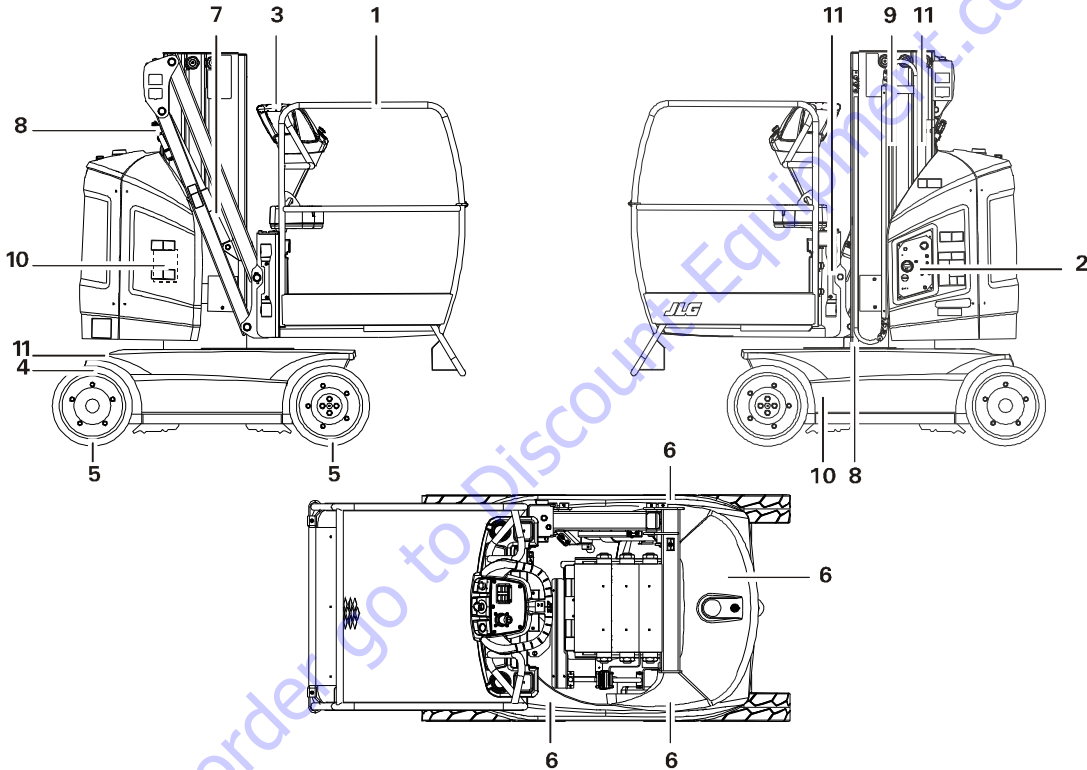
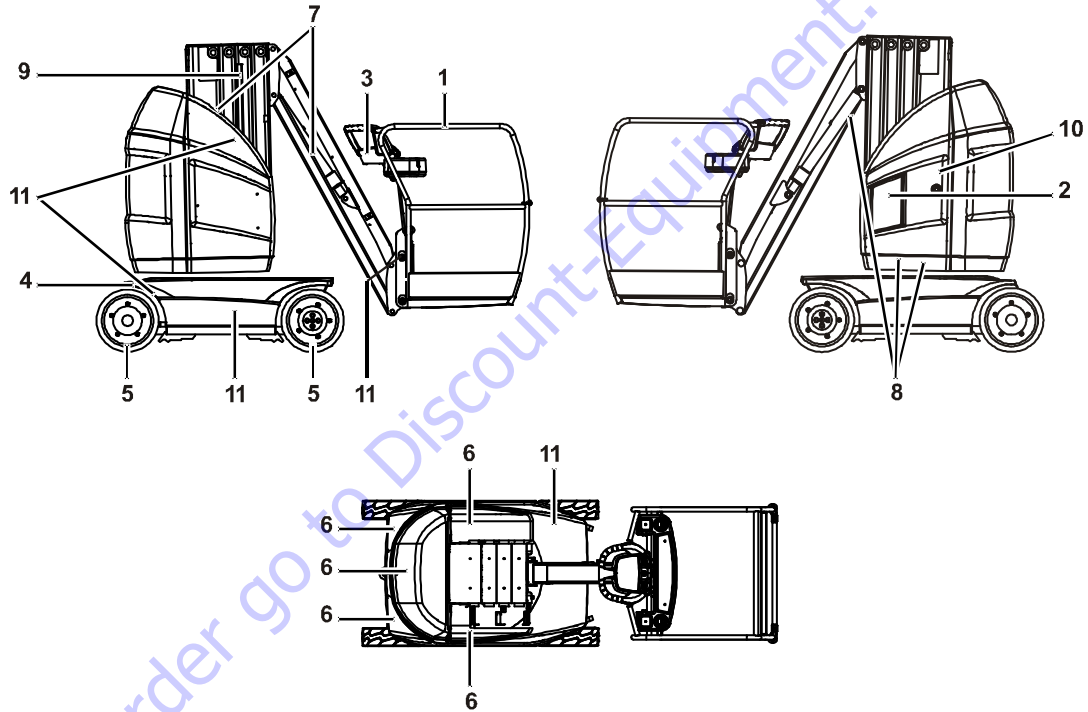

Figure 2-1. Daily Walk-Around Inspection - 8E / 20E
Figure 2-2. Daily Walk-Around Inspection - 10E / 26E
5. **“Walk-Around” Inspection** – Refer to Figure 2-1. or Figure 2-2. depending on model.
Begin the “Walk-Around Inspection” at Item 1, see Figure 2-1. or Figure 2-2. depending on model. Continue checking each item in sequence for the conditions listed in the following checklist.